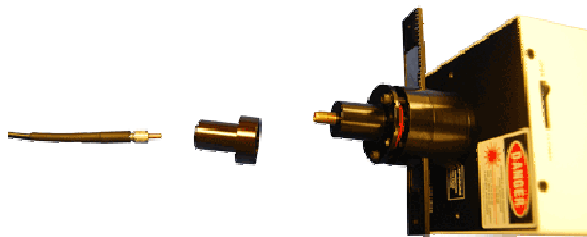
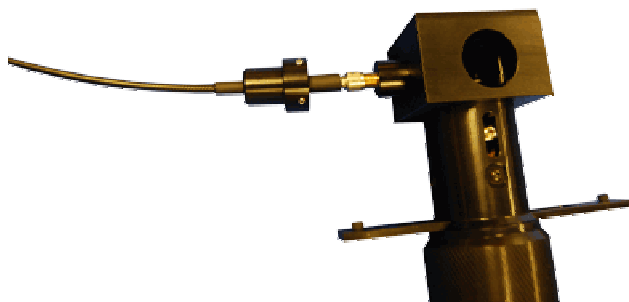

Figure 3-5: Fiber Optic Element and Fiber Lock
Figure 3-13: Fitting the Fiber into the Resonator Chamber
- a) Feed the Fiber Optic Element through the small end of the fiber lock (Figure 3-5).
- a) The fiber element and the connector are fitted into the resonator block the same way they are attached to the fiber optic coupler on the laser power supply (see Figures 3-5 and 3-6 for preparation of the fiber and connector). The assembly is fitted into the laser system as shown in Figure 3-13.